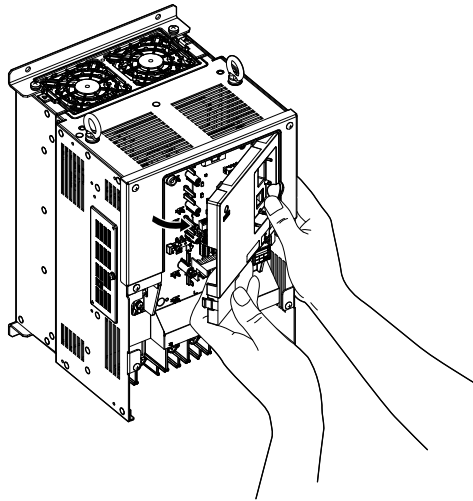

Figure 3.23 Remove the Front Cover (2A0010 to 2A0415 and 4A0058 to 4A1200)
4. Unhook the left side of the front cover then swing the left side towards you as shown in Figure 3.23 until the cover comes off.